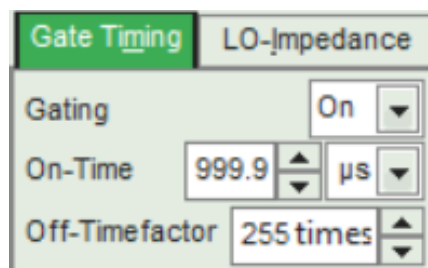

Figure 18: Gating Timing options
- The time in which the laser emission is kept off is defined by the value in the **Off-Timefactor** edit box. The **Off time** is the **On-Time** value multiplied by the **Off-Timefactor**. The resulting duty cycle and period time is displayed at the bottom (see Fig. 18).